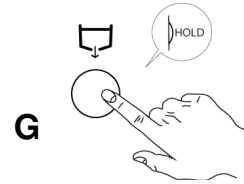

Fig.42
- 2- Hold button “I” drain water for the entire time necessary to drain out completely the water from the tank. (Fig.42)